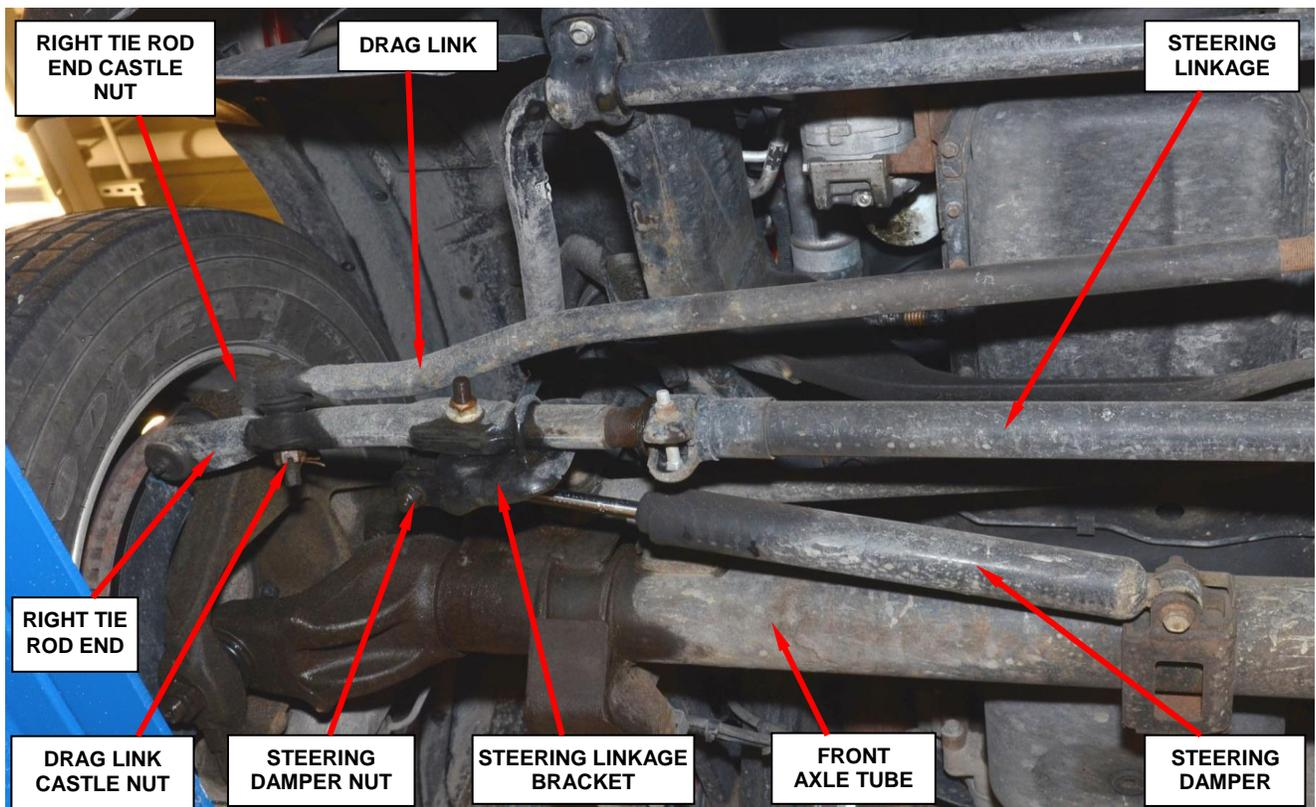

Figure 1 – Original Steering Linkage
2. Remove and save the steering damper nut and bolt at the steering linkage bracket (Figure 1).
3. Remove and save the drag link castle nut at the right tie rod end (Figure 1).
5. Remove and save the right side tie rod-to-knuckle arm castle nut (Figure 1).